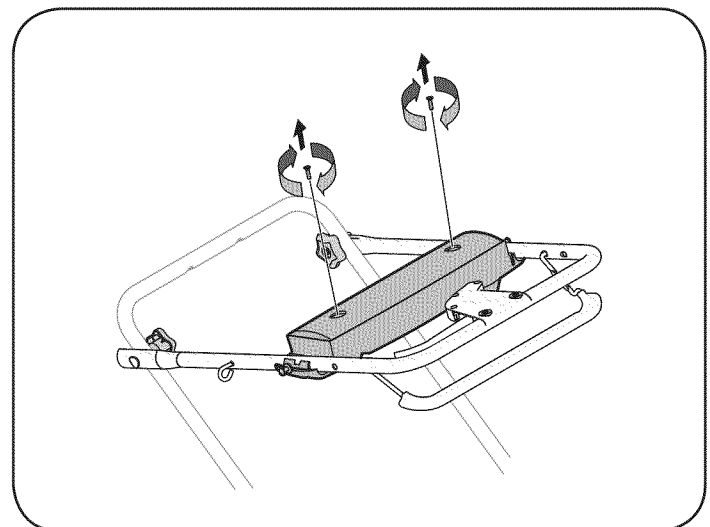

Figure 19
1. Loosen star knobs securing upper and lower handles and carefully fold the upper handle down toward the lower handle as shown in Figure 19.
2. Remove the two screws securing battery cover to battery housing and place them to the side. See Figure 19.
NOTE: The battery you have may differ slightly from the one shown in Figure 19. Refer to the Parts List.
- Open the battery cover as described in Replacing Battery. See Figure 19.